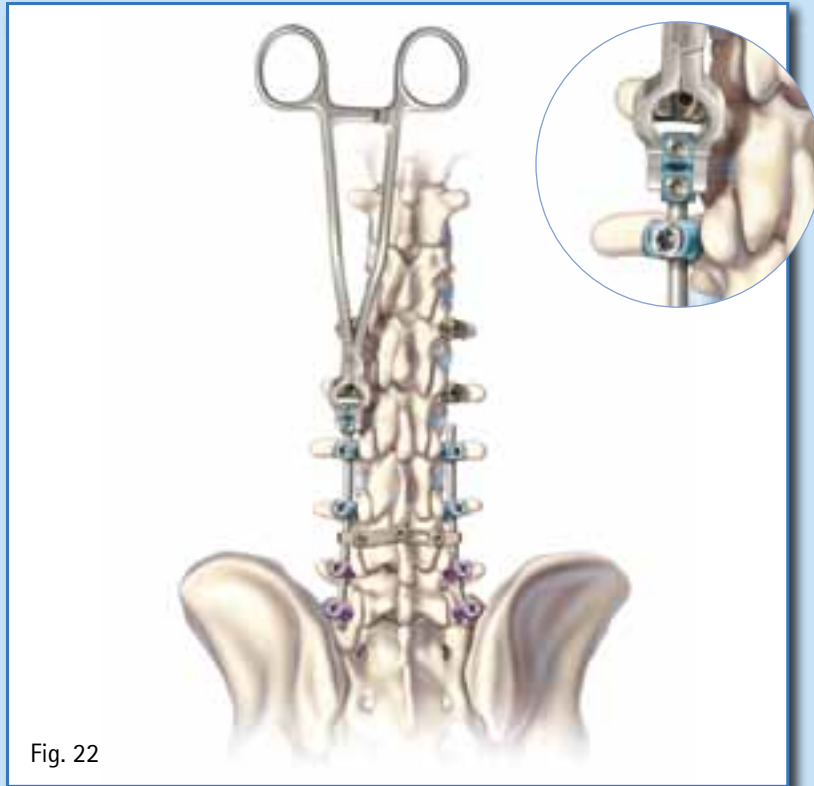

Fig. 22
- Use the rod-to-rod connector inserter (FW493R) to grab the connector and fully seat the rods inside the connector and confirm adequate rod placement using the provided window on the connector. (Fig. 22)